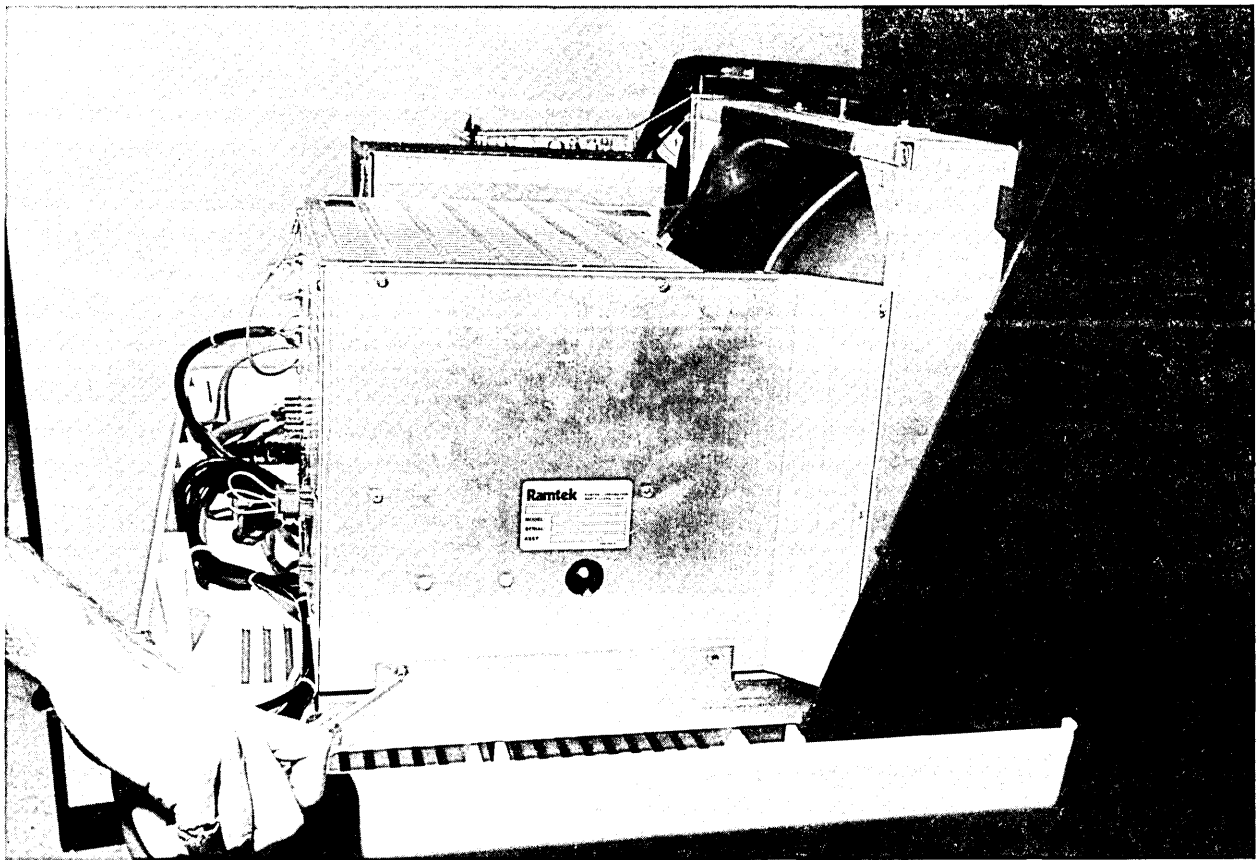

Figure 5-32. Detaching Monitor Housing from Base
5. See figure 5-32. Remove the four screws (two on each side) as shown.